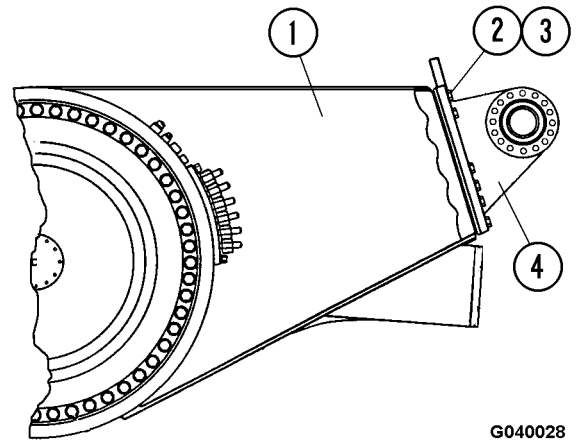

FIGURE 4-3. PIVOT EYE ATTACHMENT
If damage occurs to pivot eye (4, Figure 4-3), it may be necessary to remove it from rear axle structure (1) to facilitate repair and bearing replacement.
1. Make sure that the mating surfaces of axle housing (1, Figure 4-3) and pivot eye (4) are clean and not damaged.
3. Lift the pivot eye into position on the front of the axle housing. Insert several capscrews (2) and flat washers (3) to align the parts. Remove the lifting device.